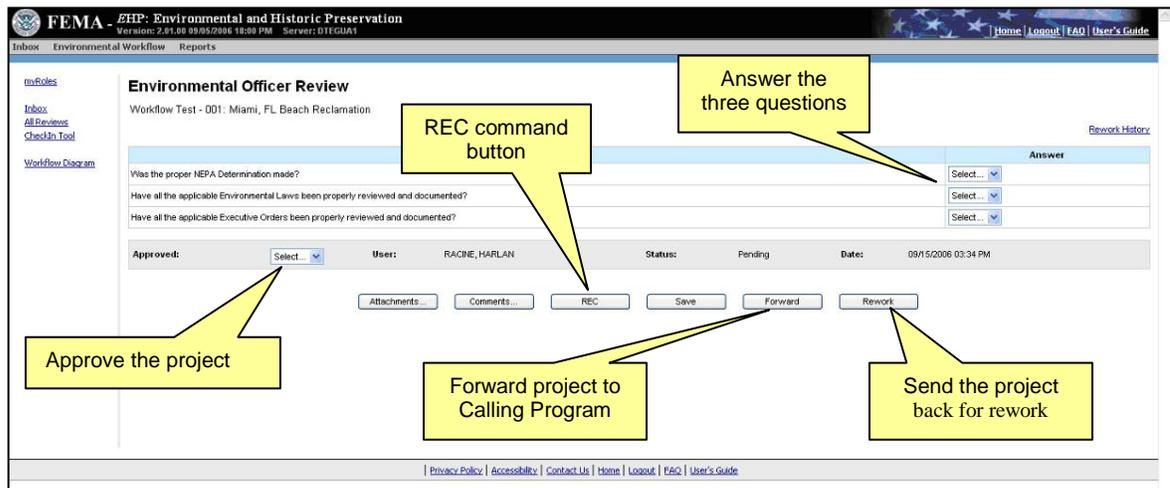

Figure 4.1: EO Review
- Answer the three questions regarding the quality of the Technical Reviews (Figure 4.1).